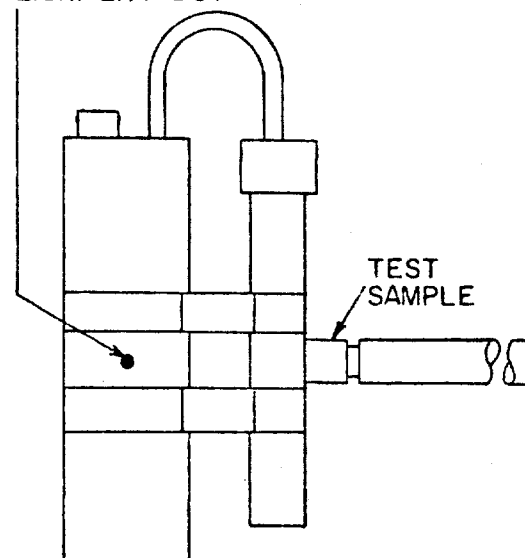

FIGURE 4-4. POSITION 500, 50 and 5 CHECKS.
STEP 6. Place the active end of the test sample perpendicular against the smaller cylinder of the Probe Assy. as shown in Figure 4-4. The meter should read between 10 and 30 mR/hr.
STEP 7. Turn the range switch to the 50 position. Hold the test sample as shown in Figure 4-4. The meter should read between 10 and 20 mR/hr.
STEP 8. Turn the range switch to the 5 position. Hold the test sample as shown in Figure 4-4, above. The meter should read between 1 and 2 mR/hr.